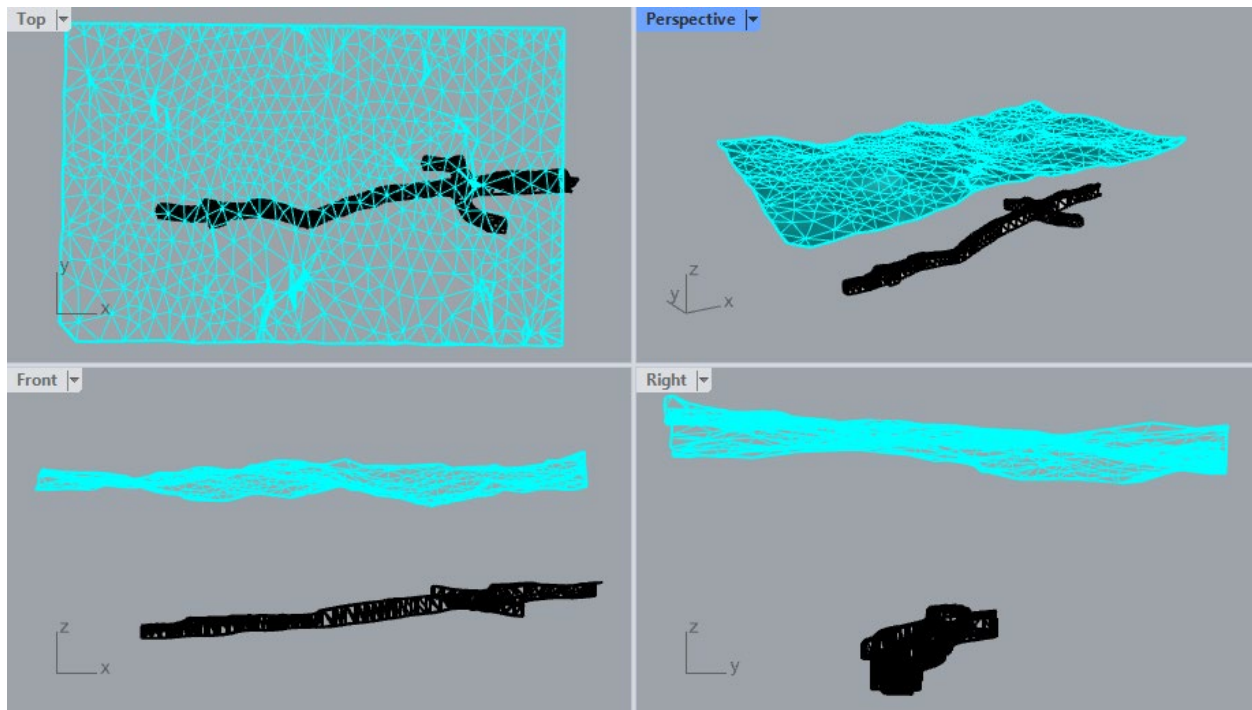

Figure 64: Drift geometry from a mine.
This tutorial provides an example of a model that requires initial mesh cleaning and fixing before further model operations can be done. The model contains an existing triangular surface meshes defining a drift mine and a topographic surface (Figure 64). Such surfaces often come from minimally processed field measurements by various surveillance systems, and they often consist of triangular meshes, which generally are not clean (often non-conformal, contain overlapping and duplicate faces, missing faces, etc.) Thus, they typically need to be cleaned and remeshed to produce surface meshes suitable for volume meshing.
2. If any of the viewport is maximized, double-click on the viewport icon to restore all four views as in Figure 64.